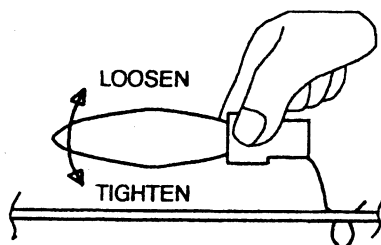

FIGURE 12
3. **Hold the socket while unscrewing the bulb.(FIGURE 12)**
2. **Hold the socket while unscrewing the bulb.**(FIGURE 12)